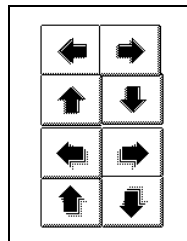

Figure 4-54. Position and Size Control Arrows
- Click on the position and size control arrows (Figure 4-54) as needed to adjust the image (outlined by the red border with rounded corners).